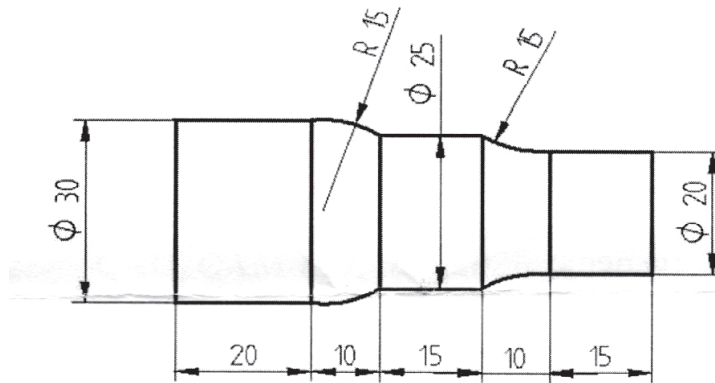

Figure 3: Qu 6(b)
- b) Write CNC part program for turned component as shown in figure 3 using canned cycles. Assume suitable cutting data. [12]